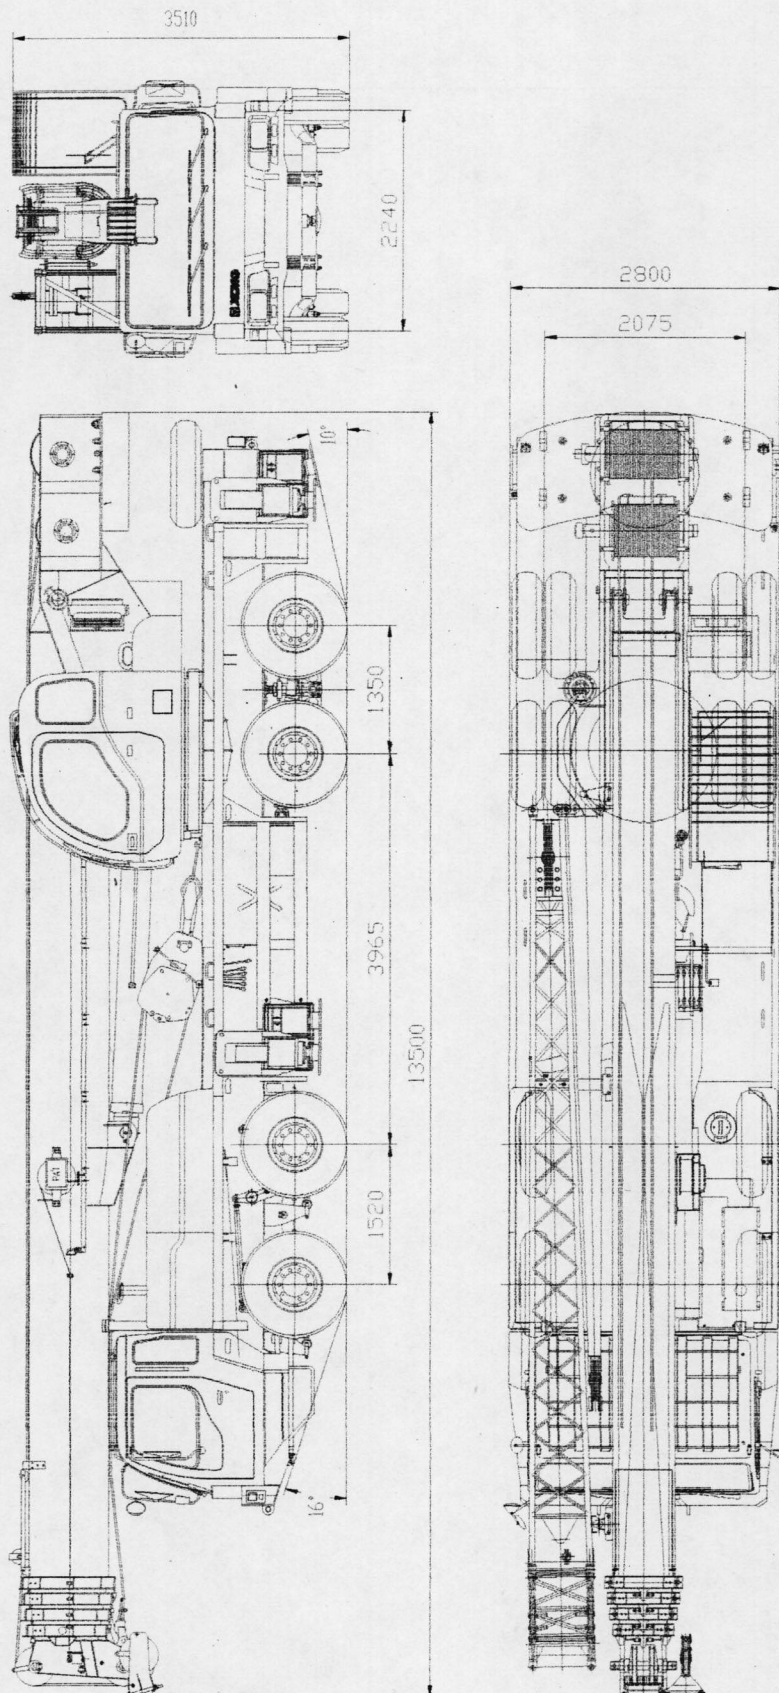
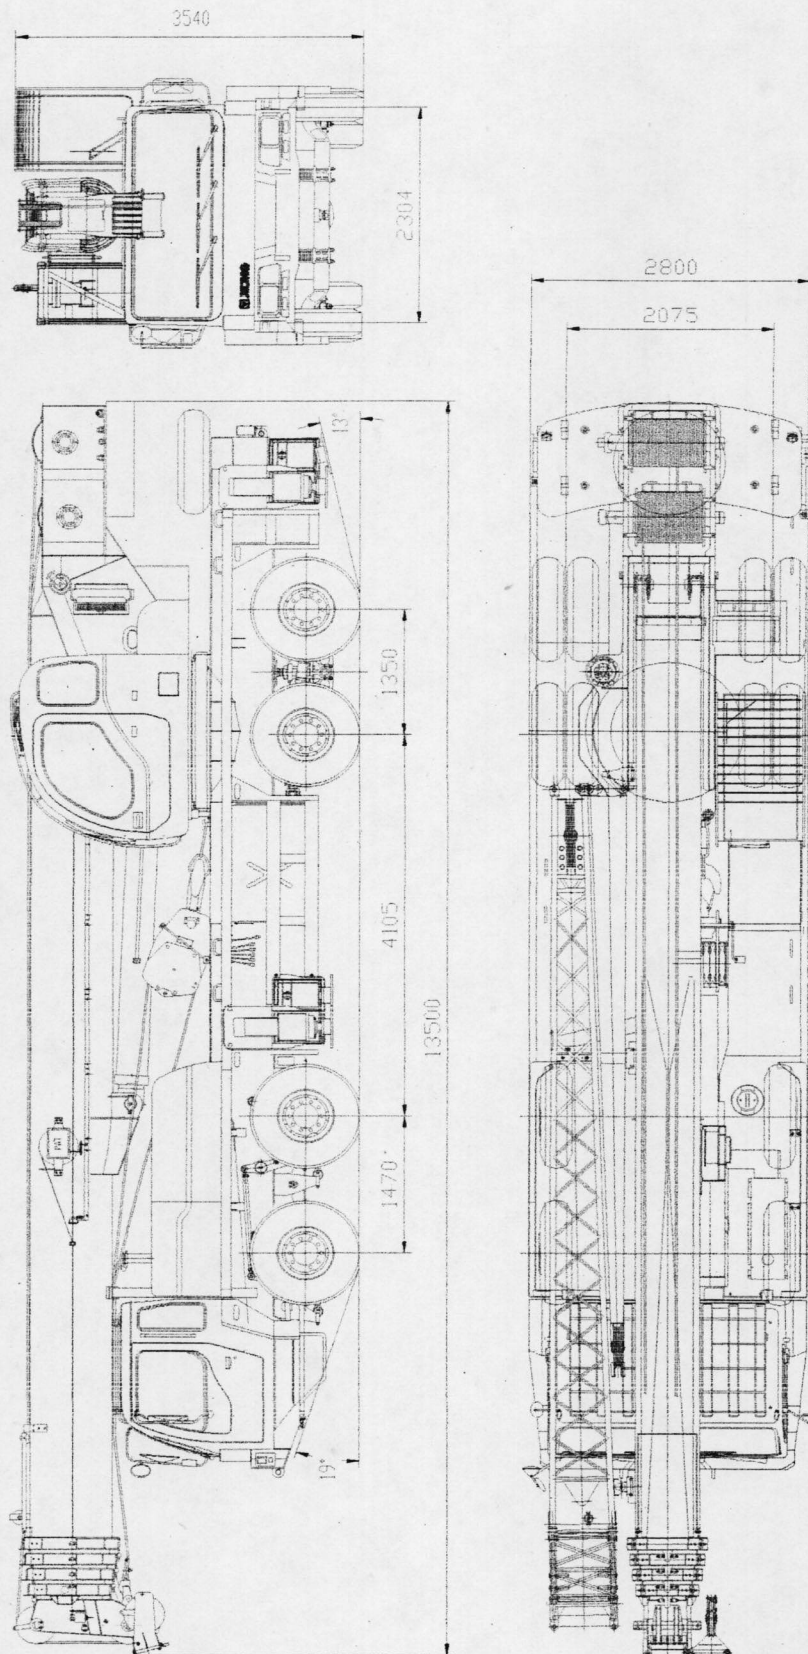
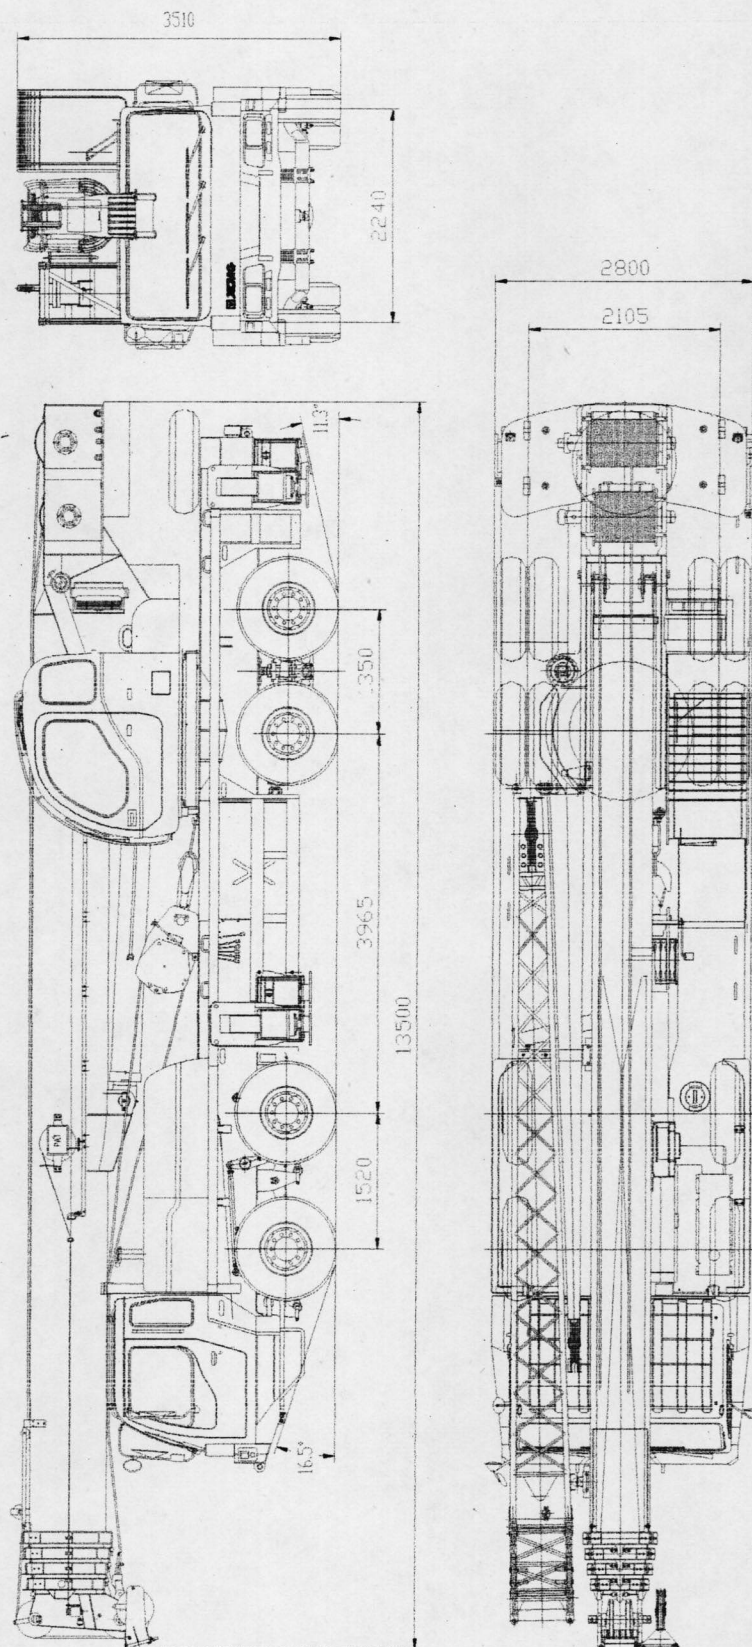

Fig. 3-1 QY70K Truck Crane Outline (XZJ5413JQZ70K)
Fig. 3-1a QY70K Truck Crane Outline (XZJ5430JQZ70K / XZJ5431JQZ70K)
Fig. 3-1b QY70K Truck Crane Outline (XZJ5411JQZ70K)
- (1). Truck Crane Outline (Fig. 3-1, Fig. 3-1a, Fig. 3-1b)
- (2). Technical Specifications (Table 3-1, Table 3-1a, Table 3-2)